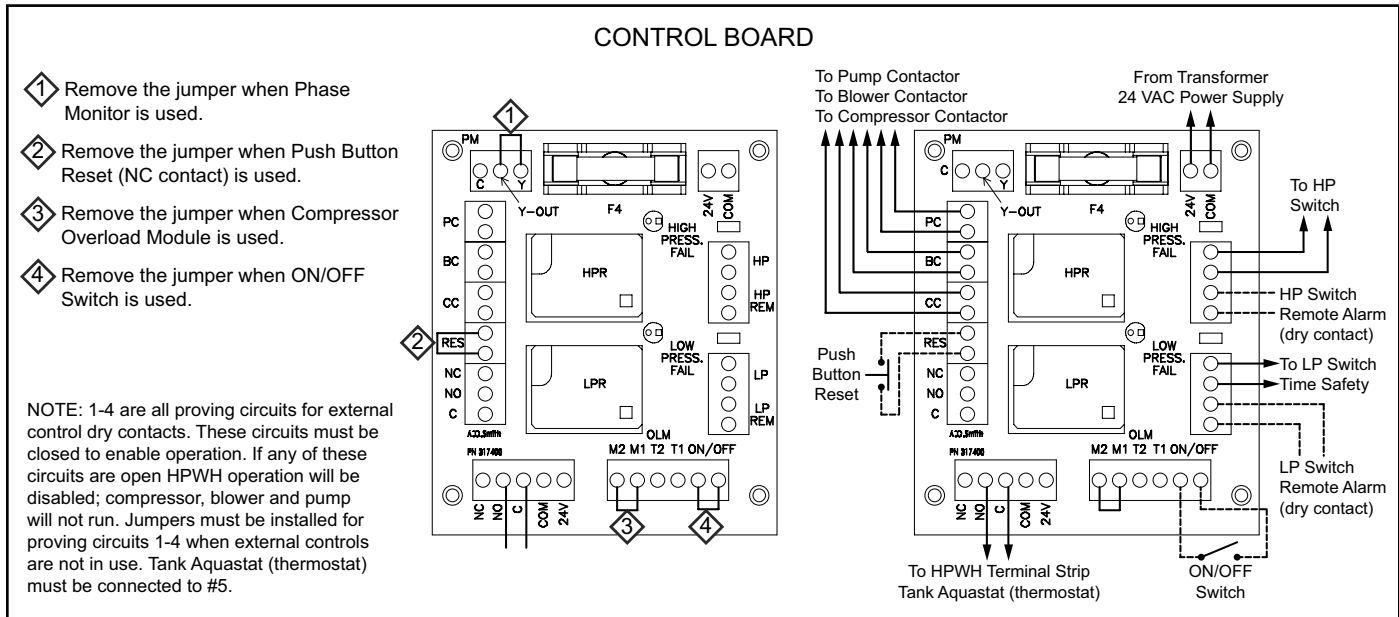
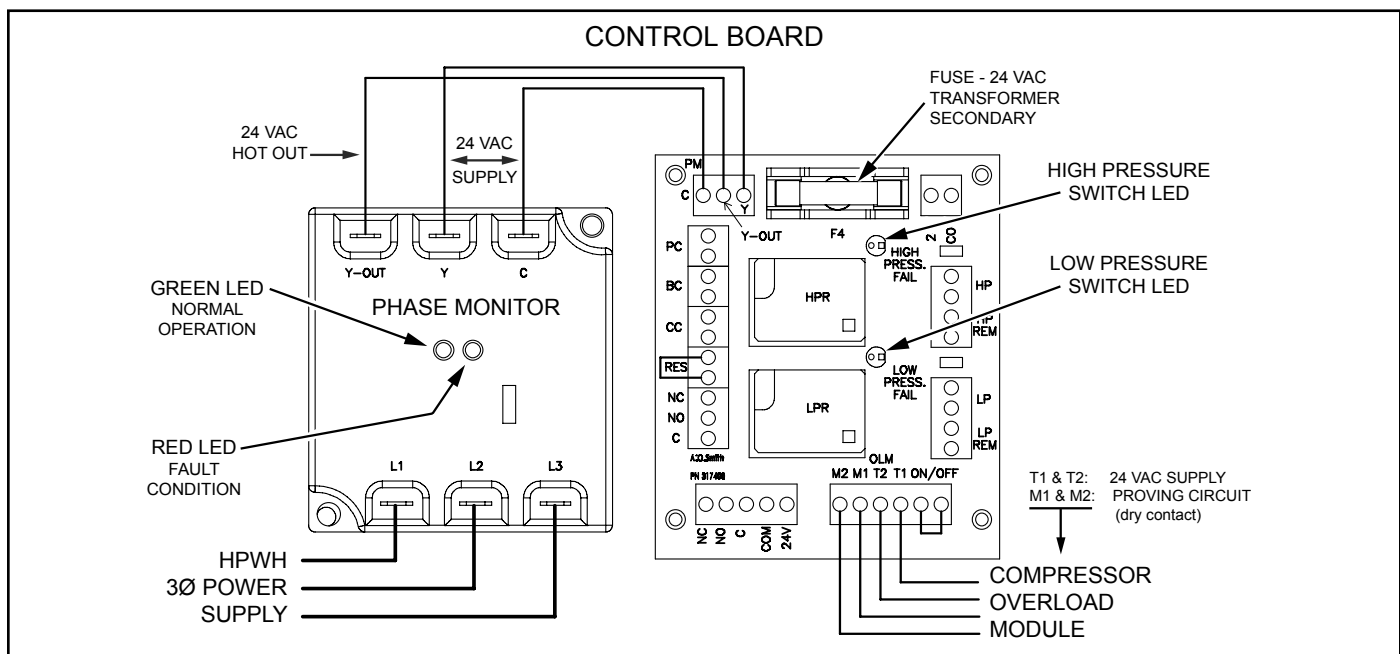

Figure 13
Figure 14
The heart of the control system is the Control Board which is a printed circuit board (PCB) installed inside the control box. See Figure 13 below, Figure 14 on page 30 and the Wiring Diagrams on pages 32 to 36.
SERVICE NOTE: All five (5) of these circuits must be closed circuits or the HPWH will not operate. See items 1-5 in Figure 13 below. If the HPWH unit does not begin a heating cycle within 5 minutes (allowing time for the anti-short-cycle timer) after power is applied ensure the thermostat is calling for heat (closed contacts). is unresponsive when power is applied
Low and High pressure switch LED lights on the Control Board will be energized during this fault condition as a diagnostic aid to indicate which switch has caused the fault condition. See Figure 14 on page 30. The low pressure switch is on a time delay (Time Safety By-Pass) to prevent nuisance lockouts during start up when the return (inlet) water may be below . This delay is set for 300 seconds from the factory.